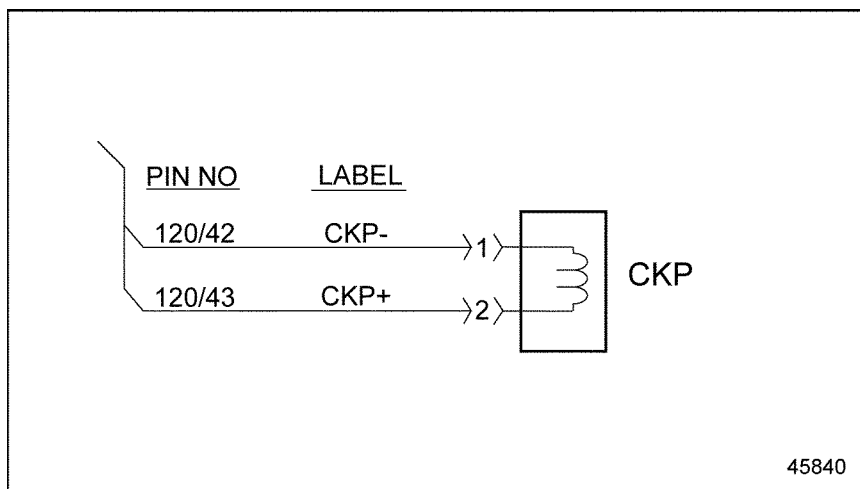

Figure 22-2 Crankshaft Position Sensor Wiring
2. Measure the resistance across pins 1 and 2 of the CKP Sensor. See Figure 22-2.
- [b] If the resistance is less than 5 Ω , repair the short between pins 1 and 2 of the CKP Sensor harness connector and pins 42 and 43 of the 120-pin MCM connector. See Figure 22-2. Refer to section 22.2.2.1.